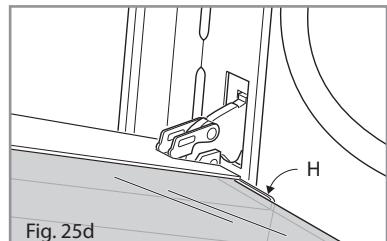

Fig. 25d
- Insert the inner pane in the left "E" and right "F" side guides (fig. 25c) and gently let it slide up to the retainers "H" (fig. 25d).